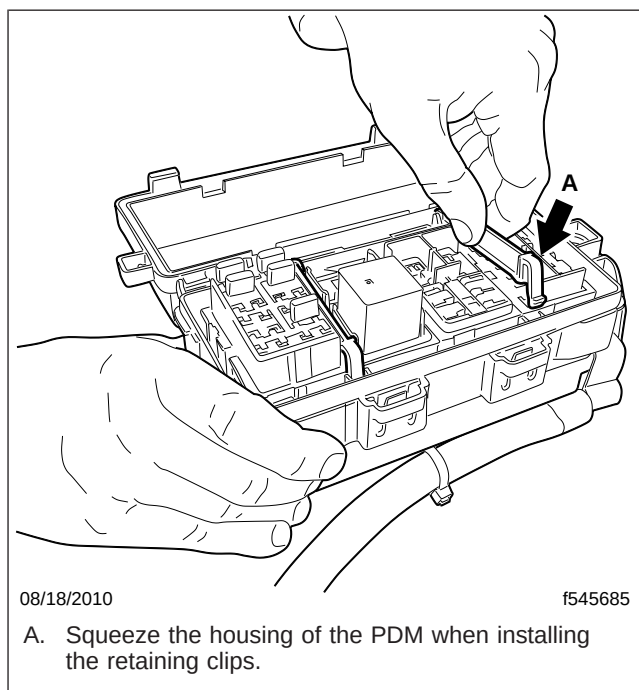

Fig. 7, Installing the Retaining Clips
4. Gently squeeze the PDM housing and install the two retaining clips. See Fig. 7.